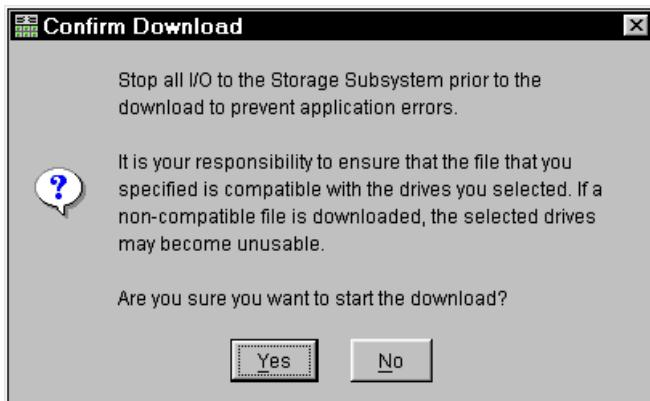

Figure 4-23 Field Tool Confirm Drive Microcode Download
5. The Confirm Download window opens as shown in Figure 4-23. Click **Yes** to confirm the download and the process begins.